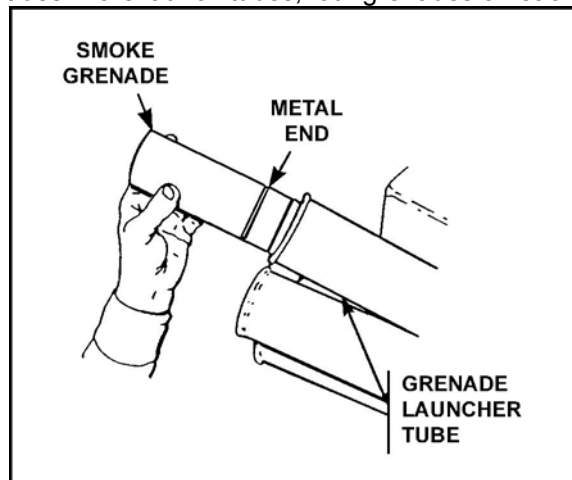

Figure 2. Load smoke grenade.
5. Load eight smoke grenades in the launch tubes, four grenades on each side (Figure 2).